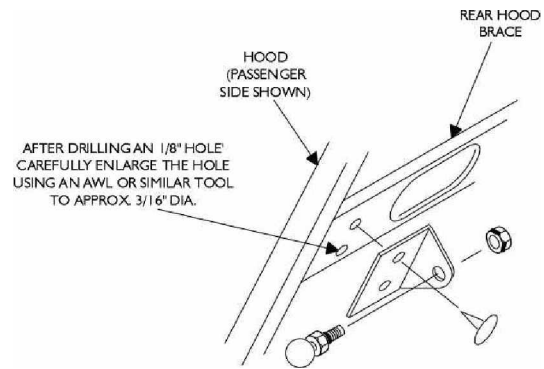

Figure 2
2. The smaller (hood) bracket will have the ball stud mounted on the inside over the two mounting holes. See Figure 2.
8. Position the provided drilling template on the rear hood cross brace (closest to the firewall) and center punch the mounting holes. See Figure 2.